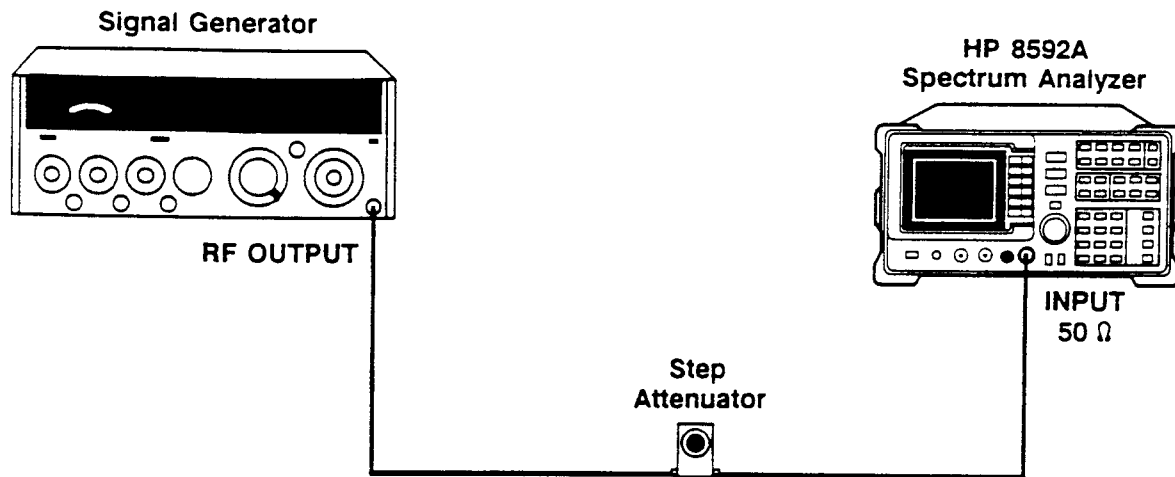

Figure 1-9. Scale Fidelity Test Setup
2. Connect the equipment as shown in Figure 1-9, set the step attenuator to 10 dB, and press the following spectrum analyzer keys: